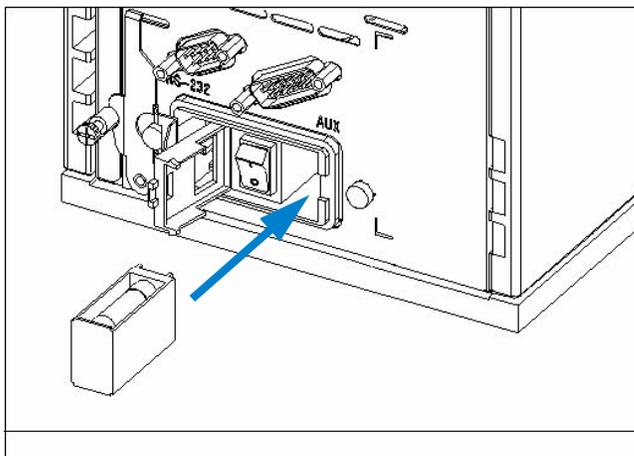

Figure 23 Slide in the Fuse Drawer
- 6 Slide in the fuse drawer and push till it fits tightly as shown in the Figure 23, “Slide in the Fuse Drawer”.